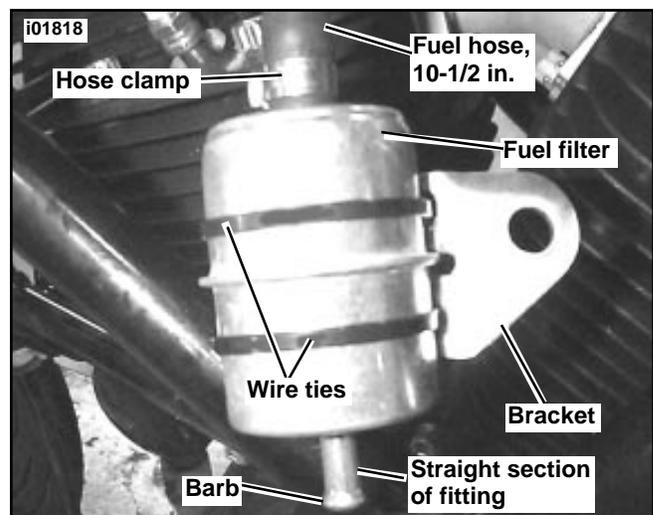

Figure 3. Filter Mounted to Bracket
11. See Figure 3. Using the wire ties, attach the fuel filter to the bracket with the filter's ridge on the middle slot of the bracket. Verify that the flow arrow on the filter is pointing towards front of vehicle.